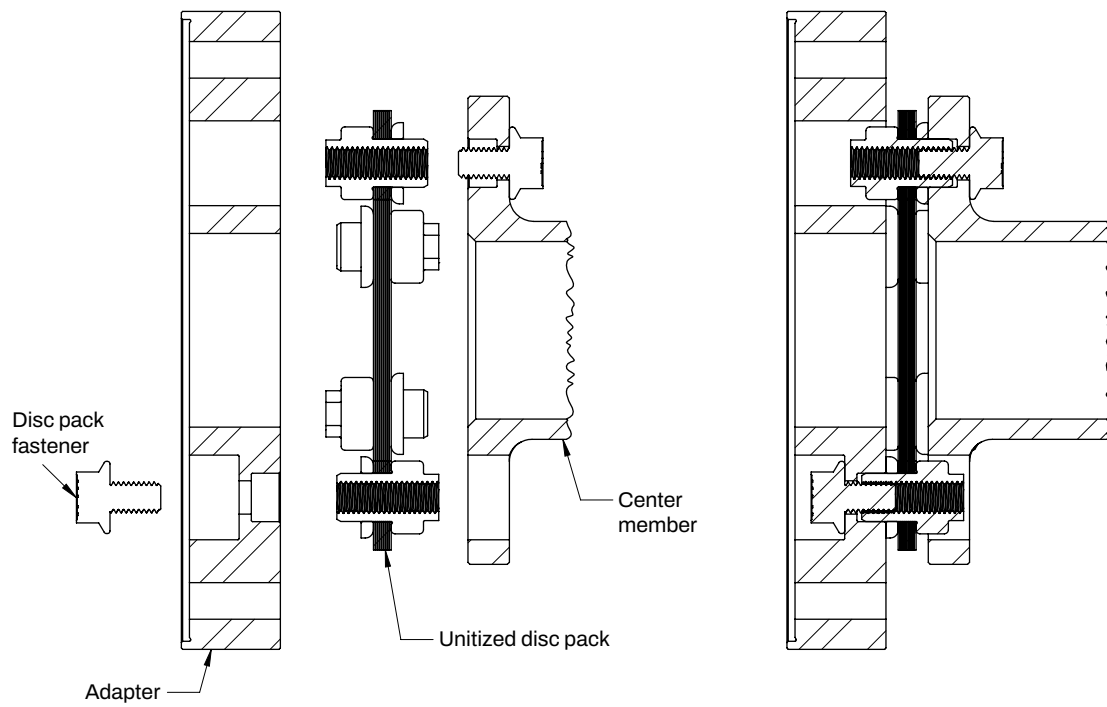

Figure 8: Disc Pack Assembly
- E.** Install the disc packs into the center member as shown in Figure 8. Insert the disc pack fasteners through the fastener holes and into the disc pack.
- G.** Install the disc packs into the adapters as shown in Figure 8. Insert the fasteners through the adapter fastener holes and into the disc pack.